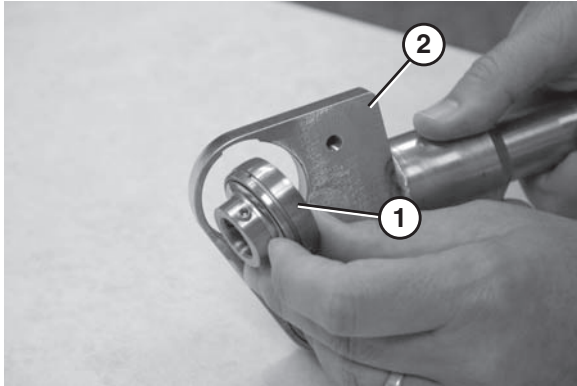

Figure 93
2. Remove the bearing (Figure 93, item 1) from the nose bar shaft assembly (Figure 93, item 2).